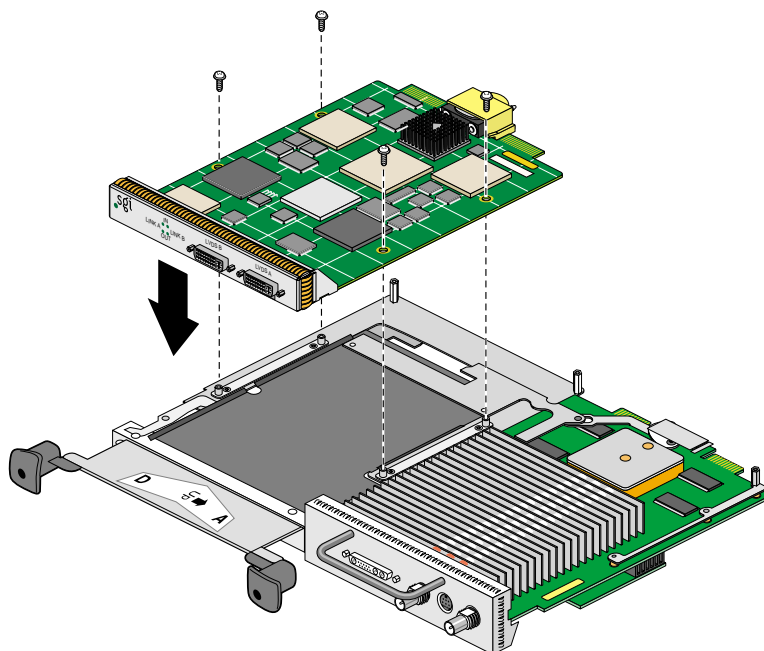

Figure 2-13 Positioning the Board
2. Position the board over the appropriate slot, as shown in Figure 2-13